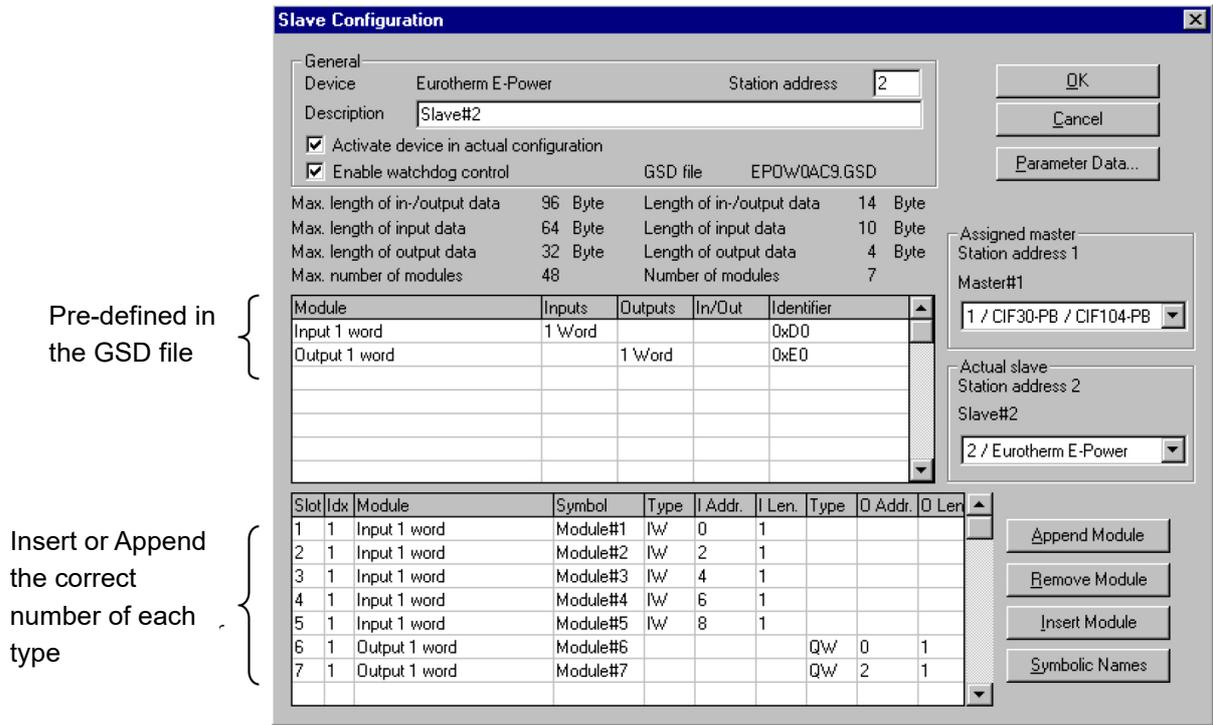

Figure 30 Configuration example in a typical mater
3. Assign modules to the slave. There are two modules which are already pre-defined in the GSD file for EPower, These are "Input 1 word", and "Output 1 word". In the master you must declare the number of input modules and the number of output modules for every item in the input and output lists, with the input lists being assigned first. So, for the example given in the previous section, (see Figure 30) you should add the "Input 1 word" five times to the module list, and then add sufficient "Output 1 word" modules to cover the number of outputs you have defined. Unless this step is performed correctly, Profibus communications will not be established. Figure 30 shows an example of how this may be applied in a typical master for one slave at address 2. In this example, five input words and two output words are defined.